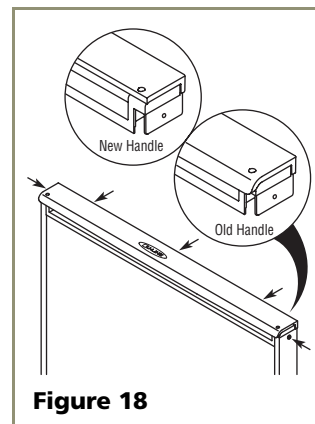

Figure 18
3. Remove the three screws located on the back of the handle (see **Figure 18**).